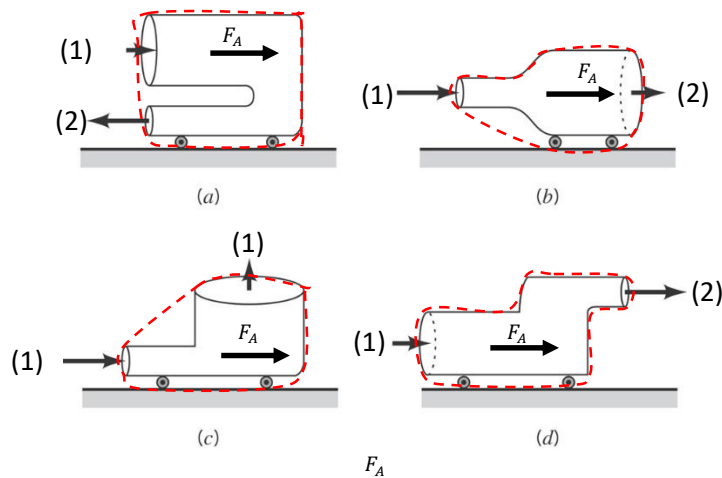

Figure 2. Problem 2.
- 2 The four devices shown in Fig. 2 rest on frictionless wheels, are restricted to move in the x-direction only, and are initially held stationary. The pressure at the inlets and outlets of each is atmospheric, and the flow is incompressible. The contents of each device are not known. When released, which devices will move to the right and which to the left ? Explain.